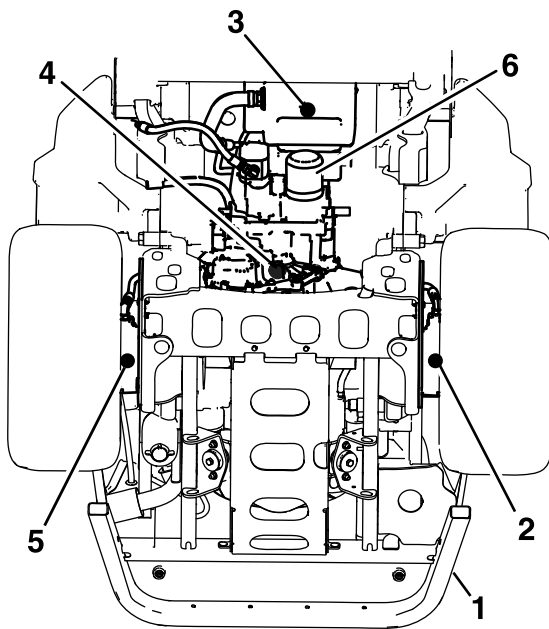

Figure 63
4. Place a large drain pan under the hydraulic reservoir, transmission case, and the left and right wheel motors (Figure 63).
5. Remove the drain plugs from each area and allow the hydraulic fluid to drain (Figure 63).
6. Clean the area around the hydraulic-fluid filter and remove the filter (Figure 63).